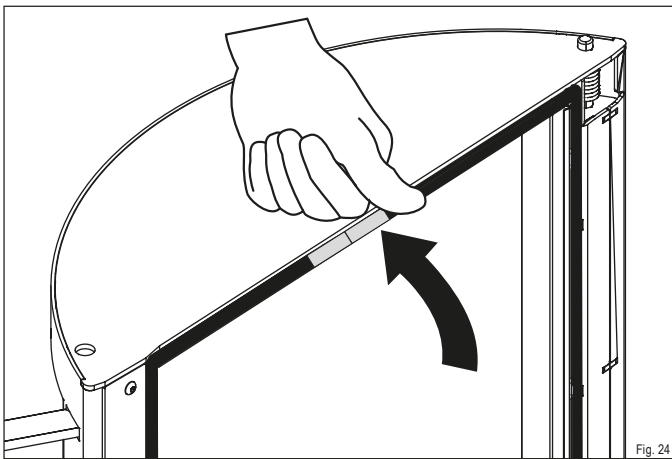

Fig. 24
- ▶ Also wrap this end in copper tape (Fig. 20) and push the seal into the rail (Figure 24)